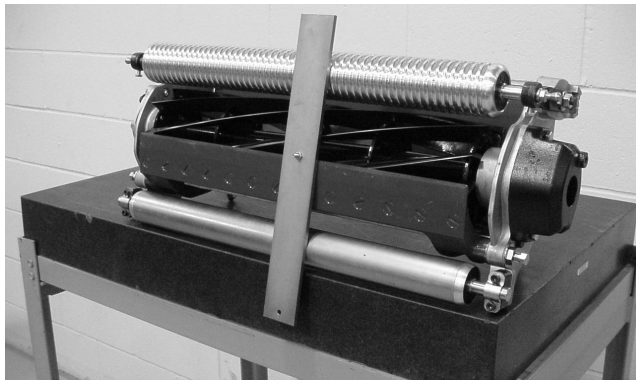

Figure 15
3. Hook screw head on cutting edge of bedknife and rest rear end of bar on rear roller (Fig. 15).